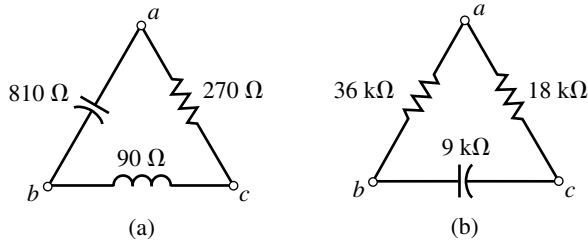

FIGURE 19–65
24. Convert each of the Y networks of Figure 19–66 into an equivalent Δ network.
25. Using $\Delta \rightarrow Y$ or $Y \rightarrow \Delta$ conversion, calculate I for the circuit of Figure 19–67.